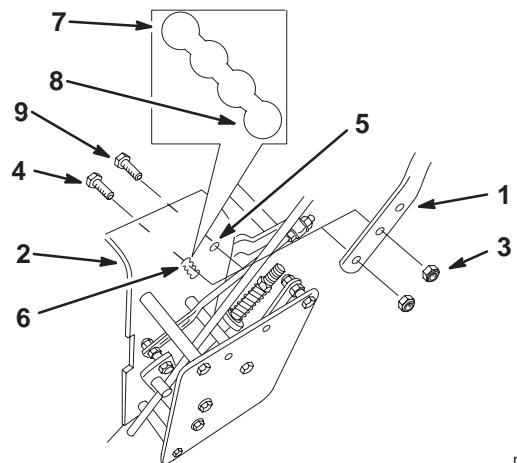

Figure 23
3. Loosen the upper flange bolts (3/8 x 1 inch) and flange nut securing handle to rear frame (Fig. 23).
4. Remove the lower flange bolts (3/8 x 1 inch) and flange nuts securing handle to rear frame (Fig. 23).